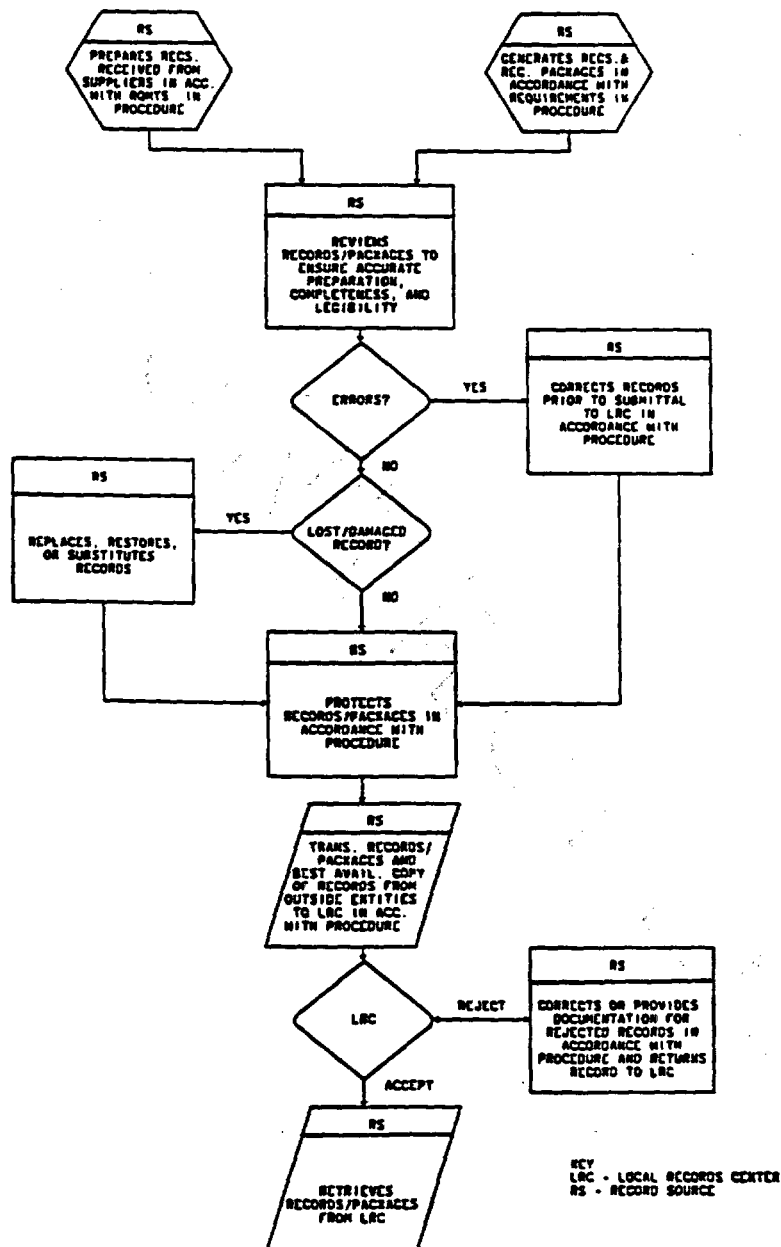

Figure 5. Diagram Depicting Flow of Records from Record Source to LRC.
A diagram depicting the flow of records from the Record Source to the LRC, as outlined within this procedure, is shown in Figure 5.
7.0 Add Figure 5 - Diagram Depicting Flow of Records from the Record Source to the LRC
8.0, item 3 Revise to read: